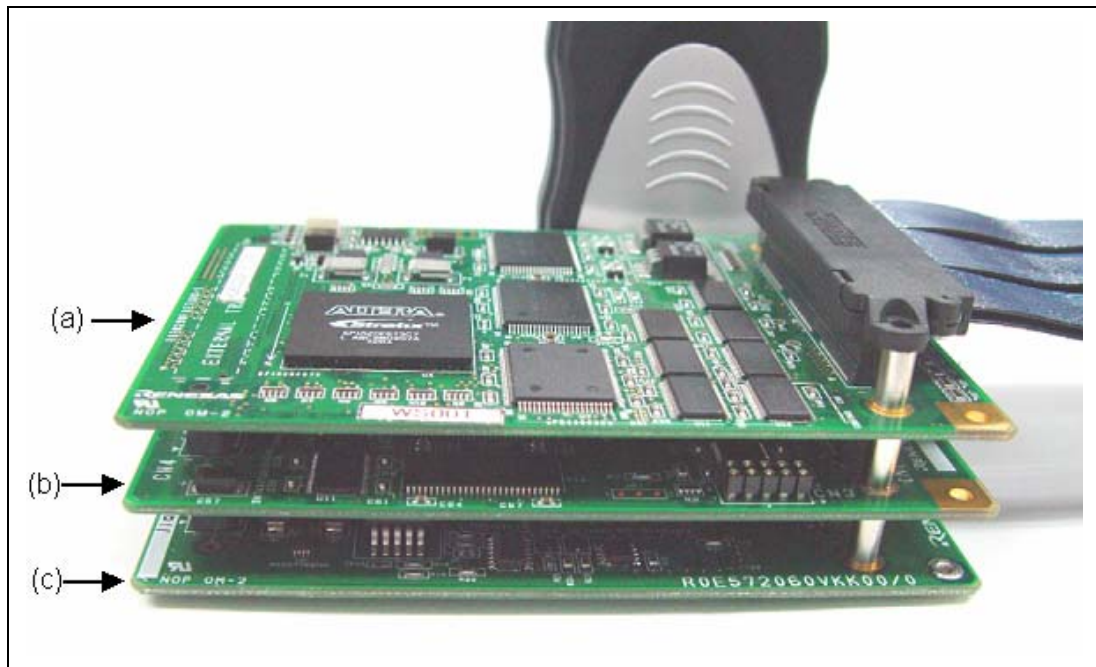

Figure 2.17 Connecting the External Bus Trace Unit, Emulation Memory Unit, and EV-chip Unit
- When the external bus trace unit is used with the emulation memory unit and EV-chip unit, as shown in figure 2.17, connect them in the positions of (a), (b), and (c) for the external bus trace unit, emulation memory unit, and EV-chip unit, respectively.